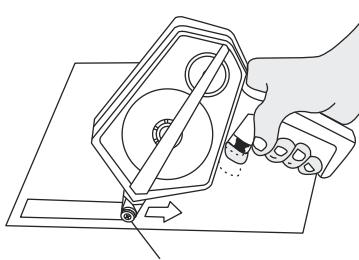

Figure 5
1. Place applying roller (E) on surface, depress trigger and pull dispenser. (See Figure 5)